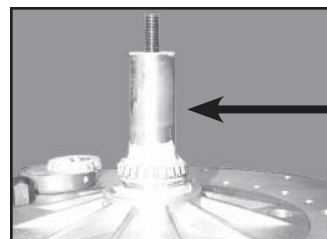

Fig 2
1. Remove the nut, bearing cap cardboard tube and plastic shrinkwrap from spindle (Fig 2).